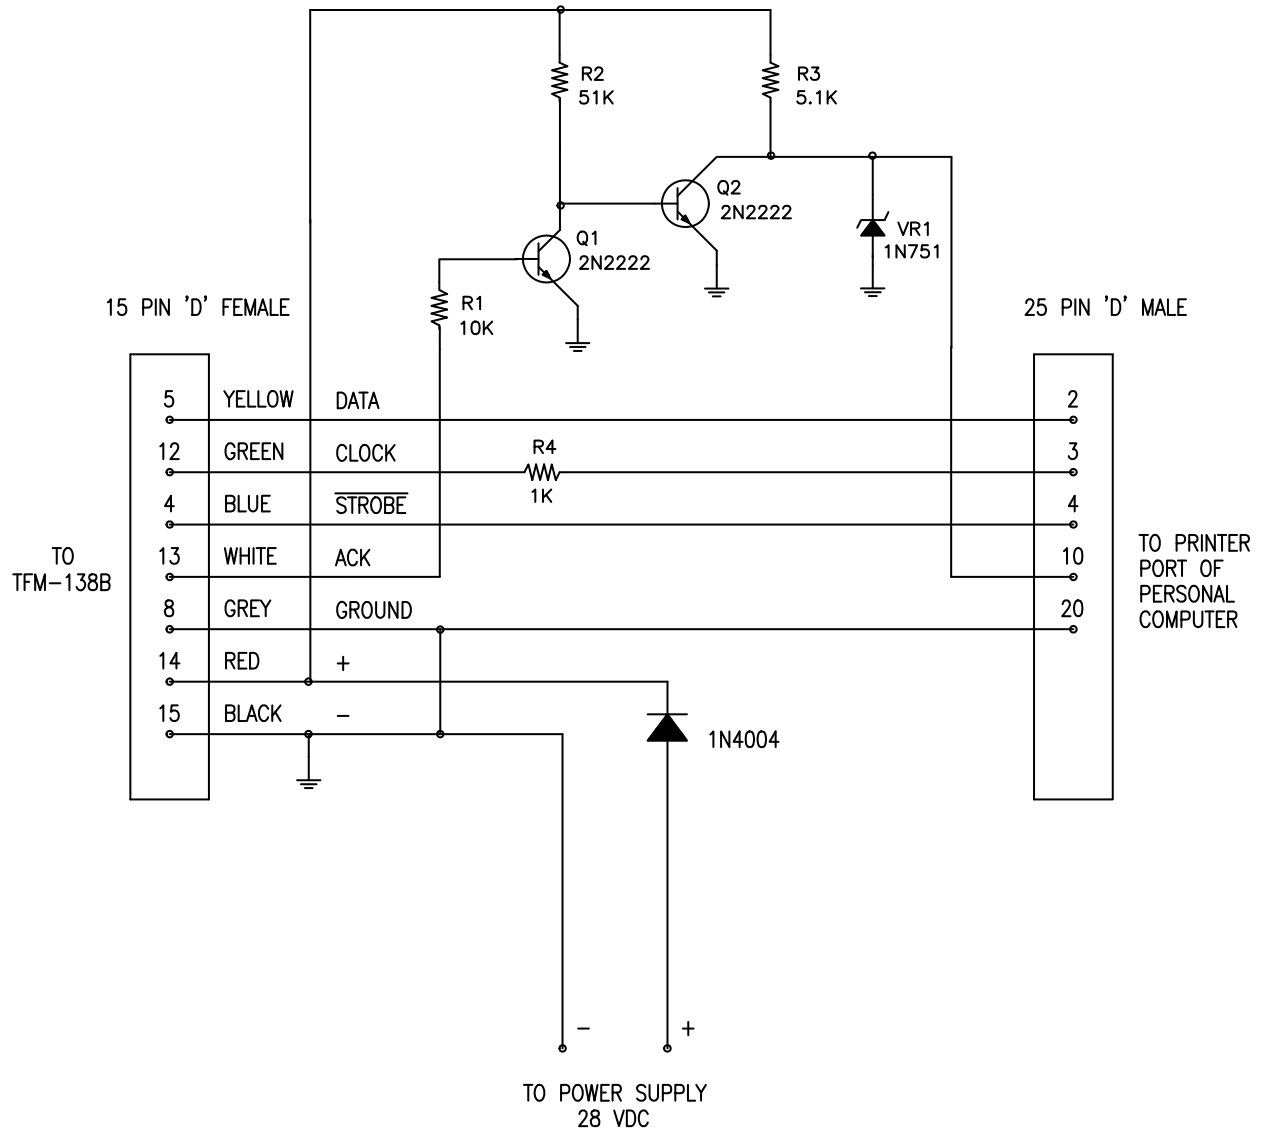

FIGURE 2.2 TFM-138B Transceiver PC Download Cable - Wiring Diagram
3. PIB-100 Programming Interface Box (p/n 001108-1) - use cables that are provided with the PIB-100 programming interface box. Do not use cable p/n 943165-4 which is shown in Figure 2.2 and is for use with the DOS program only.
3. PC Download cable (p/n 943165-4) see figure 2.2.